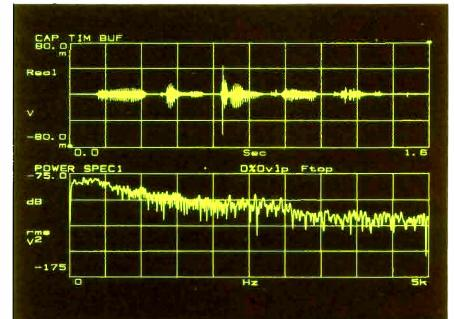

Figure 6-3
5. Start Press the yellow **START** key. The power spectrum for the first 2048 points in the capture buffer is displayed in the lower trace, as shown in Figure 6-3.